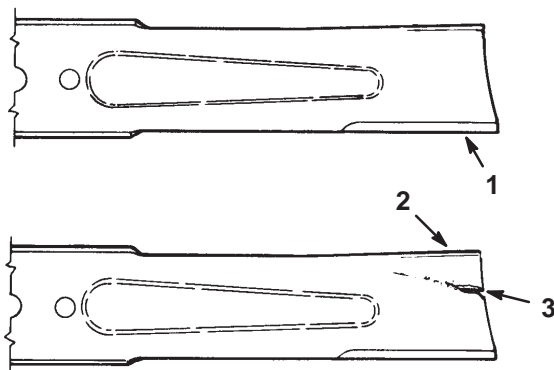

Figure 21
3. Inspect the cutting edges (Fig. 21). If the edges are not sharp or have nicks, remove the blade(s) and sharpen them; refer to Sharpening the Blade(s), page 14.
4. Inspect the blade(s), especially the curved area (Fig. 21). If you notice any damage, wear, or a slot forming in this area (Fig. 21), immediately install a new blade.